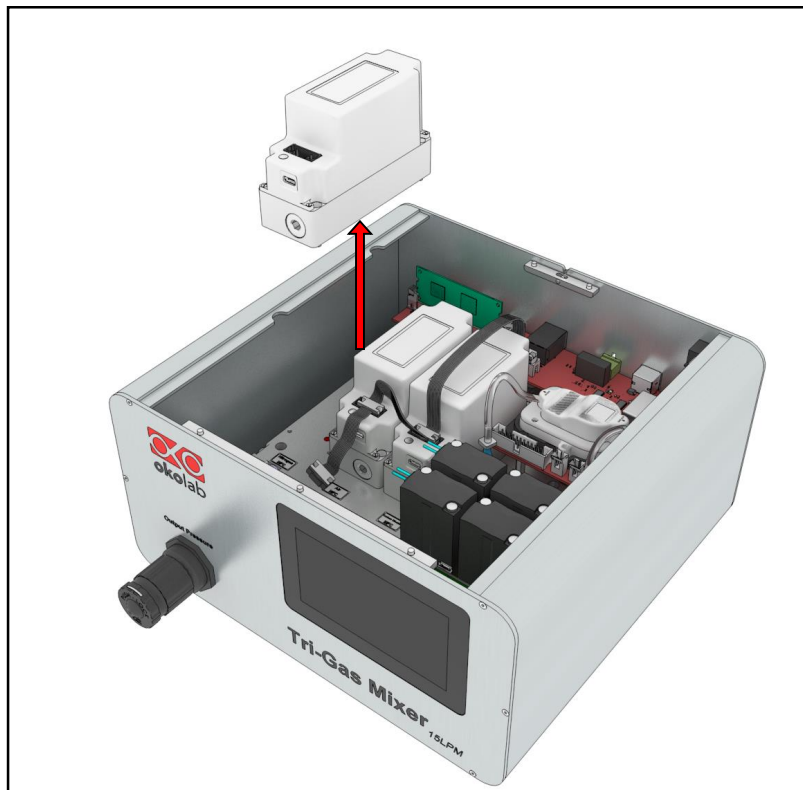

Figure 132. Mass Flow Controller extraction.
5. Lift the Mass Flow Controller up from the Tri-Gas-Mixer as shown in Figure 132